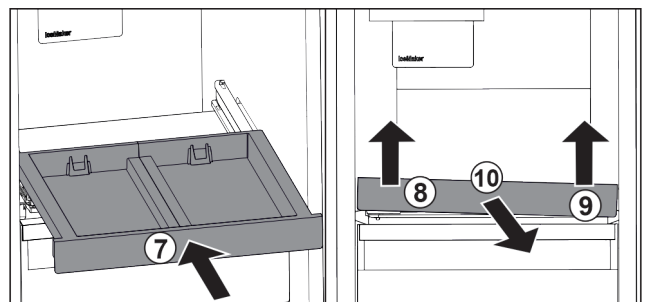

Fig. 98
- ▶ Slide in the pull-out board. Fig. 98 (7)
- ▶ Lift the pull-out board on the front left. Fig. 98 (8)
- ▶ Lift the pull-out board on the front right. Fig. 98 (9)
- ▶ Take out the pull-out board to the front. Fig. 98 (10)